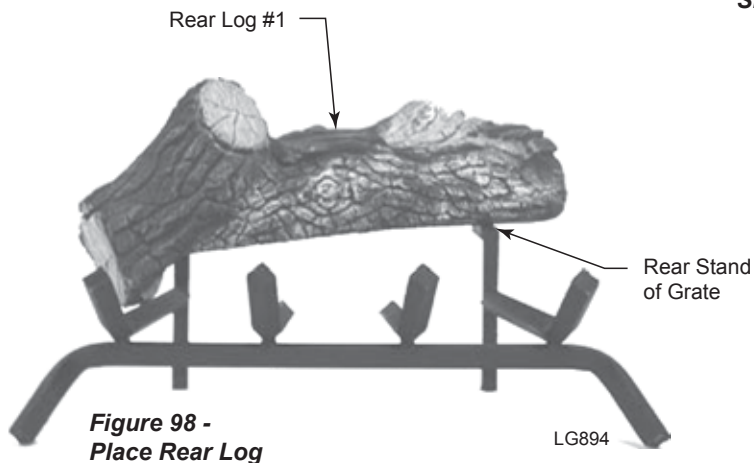

**Figure 98 -
2. Place Rear Log #1 on back of grate. Left side should fit on grate in front of rear stand. Right side goes on the rear stand of grate. *Figure 98*